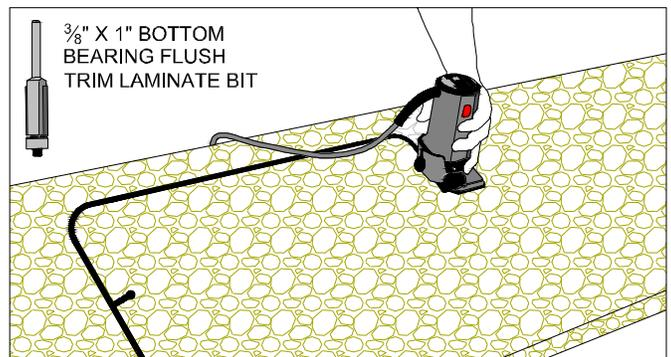

Figure 17B
- Use a laminate tilt-base trim router with a  $\frac{3}{8}$ " bottom bearing double-fluted flush trim bit, remove the laminate over the sink. (FIG. 17B)